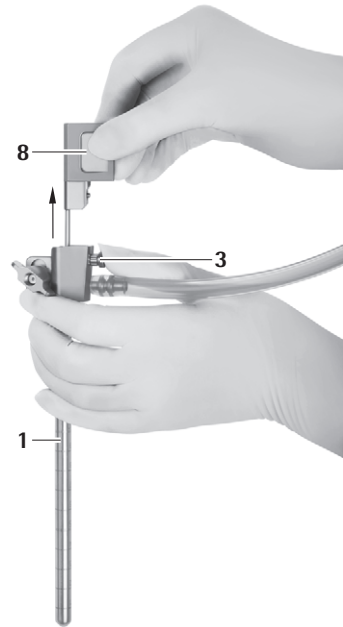

Fig. 10
- ▶ Press the release button 3 and carefully remove the obturator for the optical channel 8 from the MINOP InVent trocar 1, see Fig. 10.